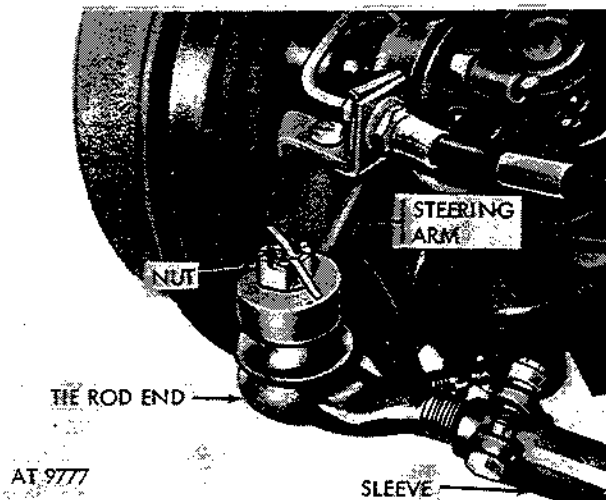

Figure 2-355. Remove tie-rod end.
(1) Remove cotter pin and nut securing tie rod end stud to steering spindle arm (fig. 2-355).
(2) Separate tie rod end from steering arm using suitable puller.